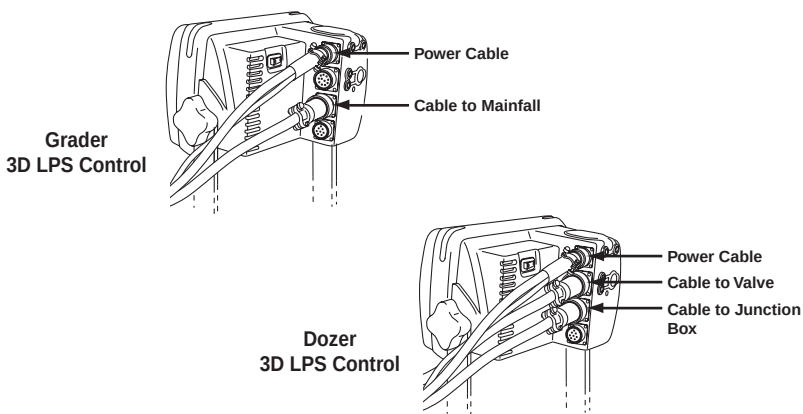

Figure 8-14. LPS Control Application Control Box Cable Connections
2. Connect the various electrical cables (Figure 8-14). Cable connections differ depending on the machine type.